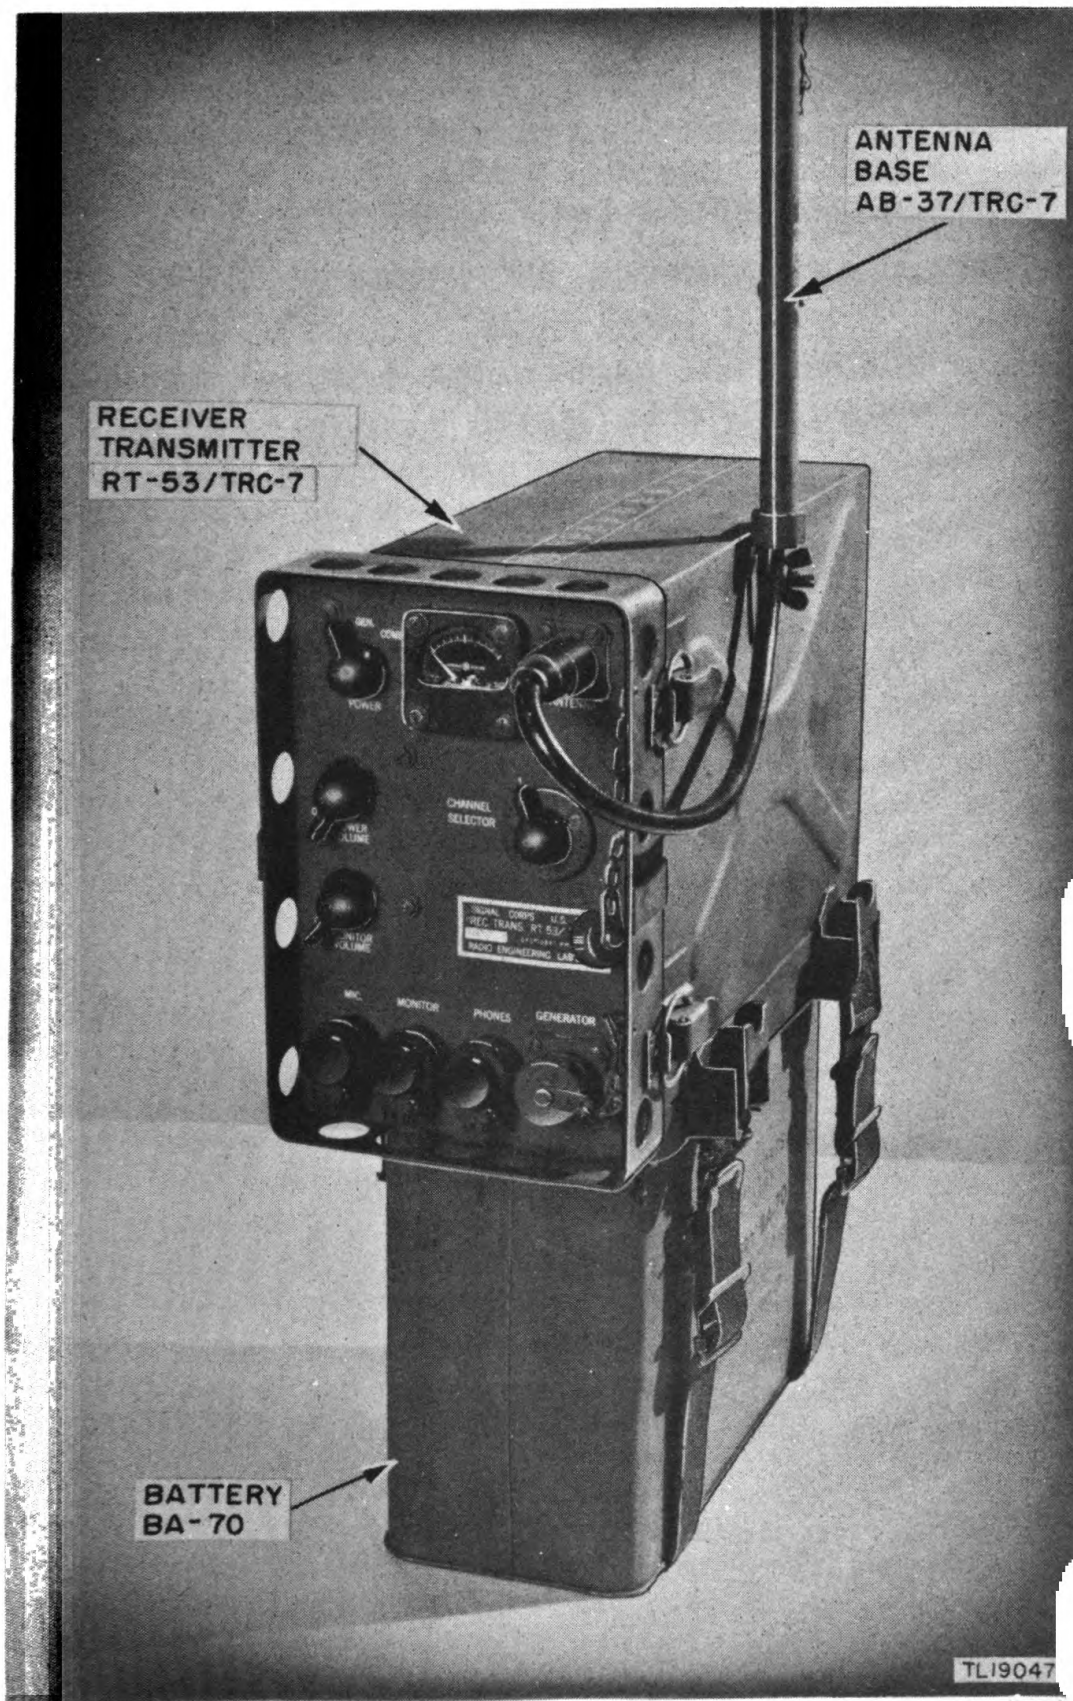

Figure 8. Receiver-Transmitter RT-53/TRC-7, with Battery BA-70 attached.
7. RECEIVER-TRANSMITTER RT-53/TRC-7 (fig. 8).
a. Housing. The one-piece waterproof housing has a dual purpose. The top section (part of the receiver-transmitter unit) houses the radio chassis. The bottom of the housing (fig. 8) covers, waterproofs, and carries the weight of Battery BA-70. On the bottom of the chassis case, a socket with a captive cover provides connection to Battery BA-70 (fig. 30).